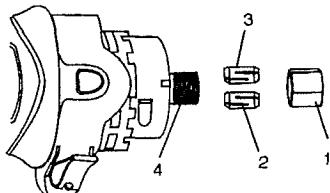

Fig. 3
The cutting bits for this tool are locked into place with a collet nut (1) and collet (see Fig. 3). The tool is assembled at the factory with NO collet installed. Both the $\frac{1}{8}$ " and $\frac{1}{4}$ " collets can be found in the carrying case front lid storage compartment. The $\frac{1}{8}$ " collet (2) is used for holding hobby tool accessory bits. The $\frac{1}{4}$ " collet (3) is supplied for holding SMALL router bits with a $\frac{1}{4}$ " shank.